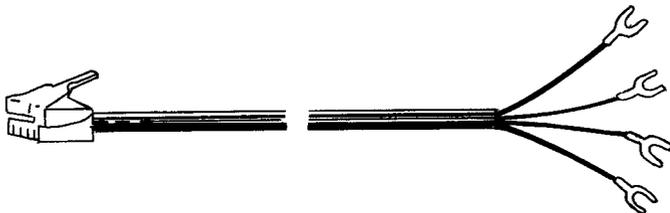

FIGURE 2. Modular Silver Satin Line Cord
2.04 **Modular Silver Satin Line Cords (Figure 2):** Modular silver satin line cords are flat four-conductor cords with spade tips on one end and a miniature plug on the other end. In modular installations, the terminal apparatus will be hardwired by the spade tipped end. The miniature plug will mate with the miniature jack. Silver satin line cords are available in 7, 14, and 25 foot lengths.